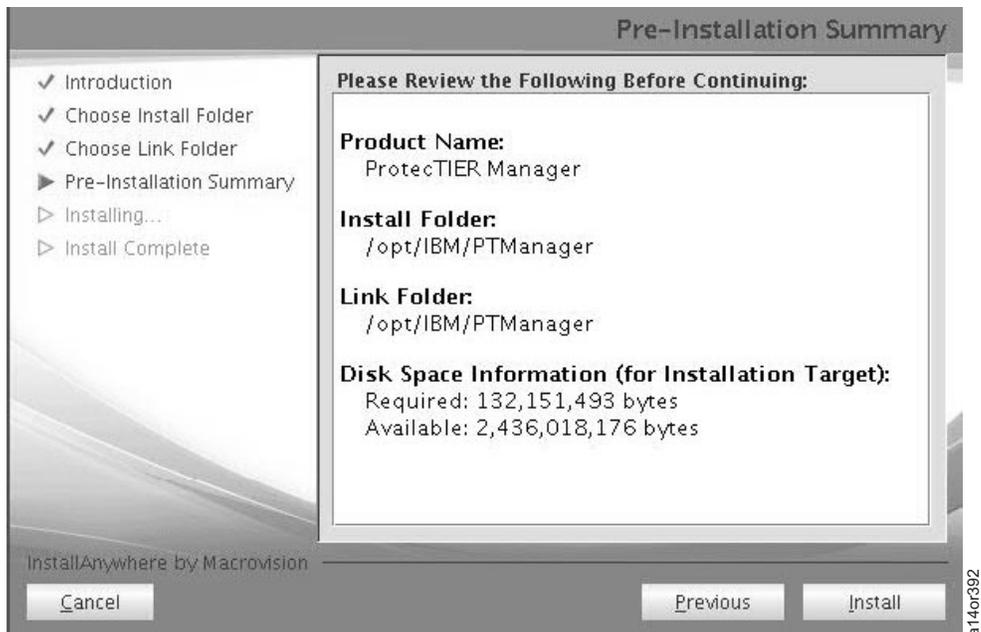

Figure 97. Pre-Installation Summary Screen
5. You see Figure 97. This screen shows you where the ProtecTIER Manager software will be installed.